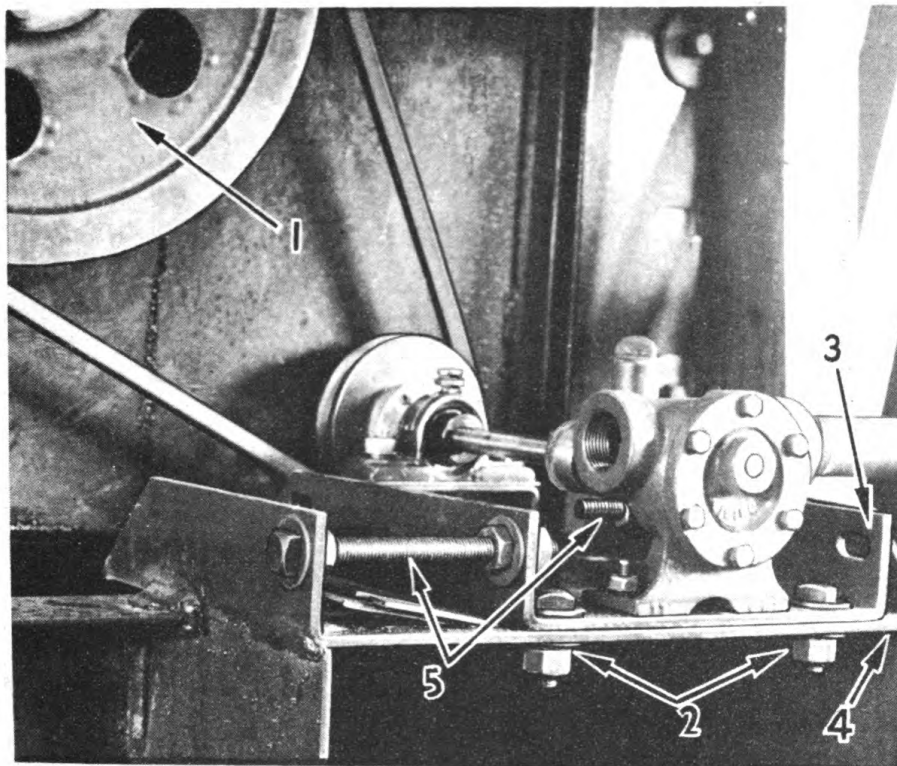

FIG. 29 - ADJUSTMENT OF V-BELT TO FUEL PUMP.
The V belt is tightened by moving the fuel pump and shaft away from the drive pulley (1) Fig. 29. This is done by loosening the four bolts (2) that secure the adjustable base plate (3) to the support frame (4). Then loosen lock nuts on thrust take-up bolts (5) and turn down nuts on adjusting bolt. The belt should be tightened sufficiently so that no sag remains, but the belt should not be tightened enough to cause it to stretch. Be sure that both ends of the adjustable base plates have been moved the same amount so as to maintain proper alignment of pulleys. Tighten all bolts.